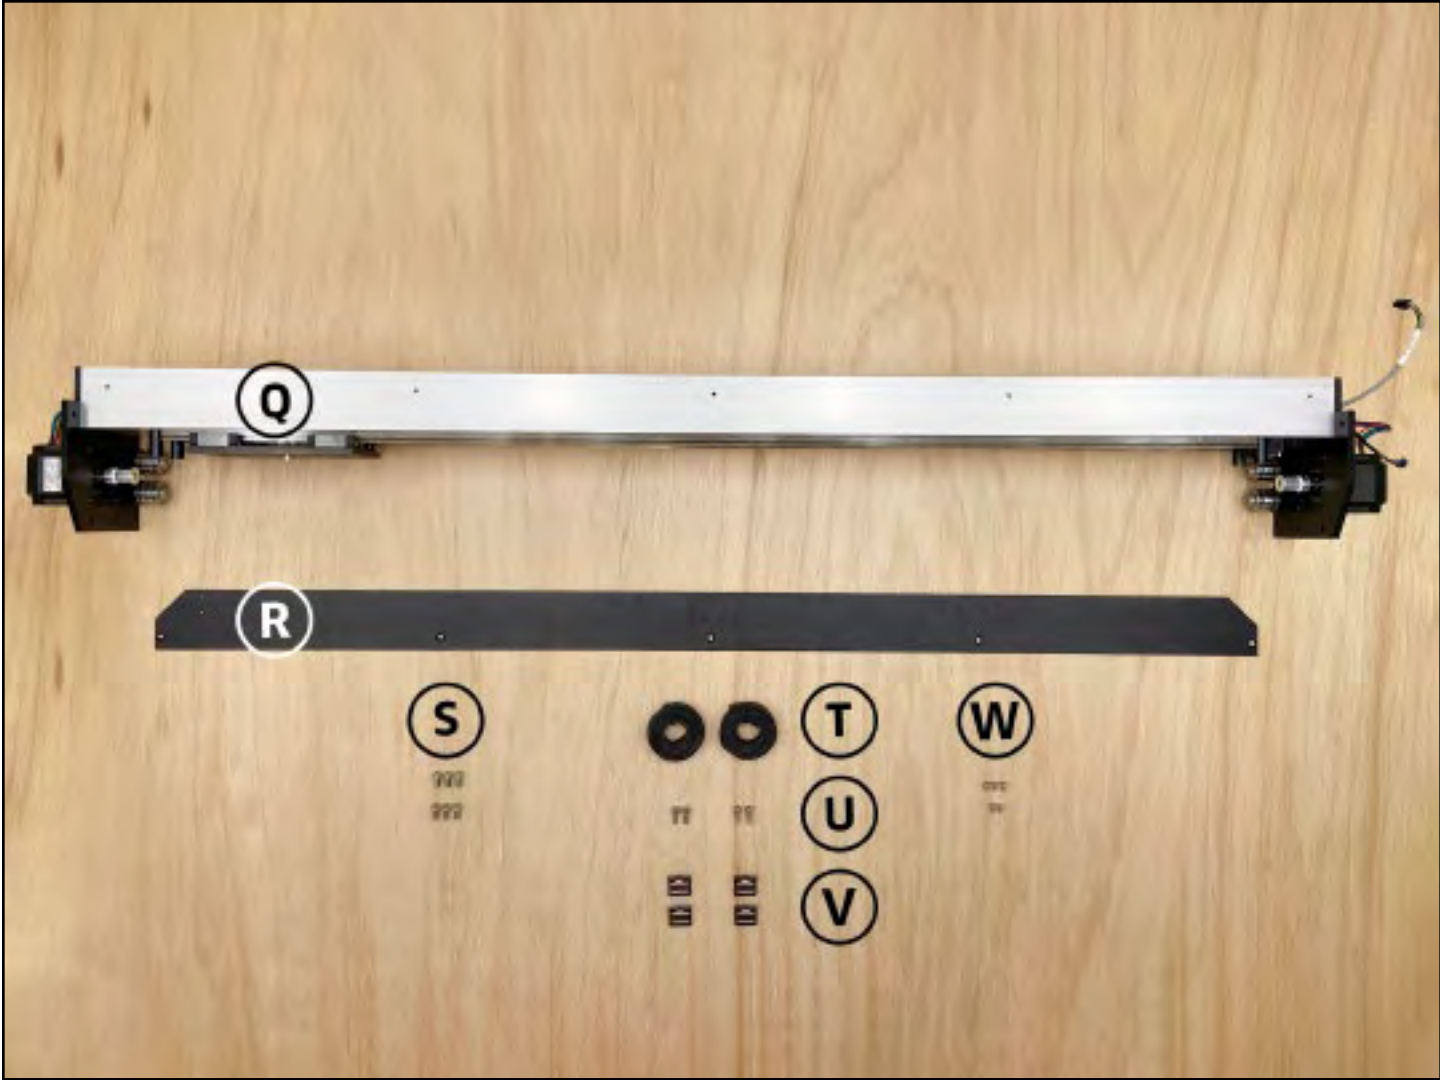

Figure 4-1
Step 4 – Gantry box contents; see **Fig. 4-1**.